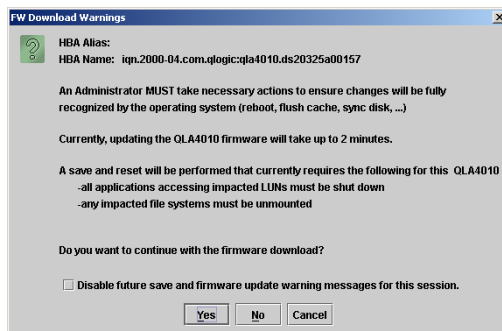

Figure 6-29. Firmware Download Warnings Dialog Box
9. The **Firmware Download Warnings** dialog box displays (see figure 6-29). Click **Yes** to continue.